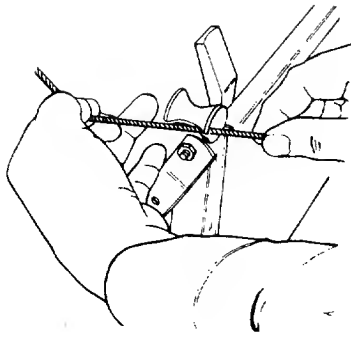

FIGURE 11.
5. **Models 176R and 177R Only:** If not already assembled, slip the starter rope into the rope guide as shown in figure 11.